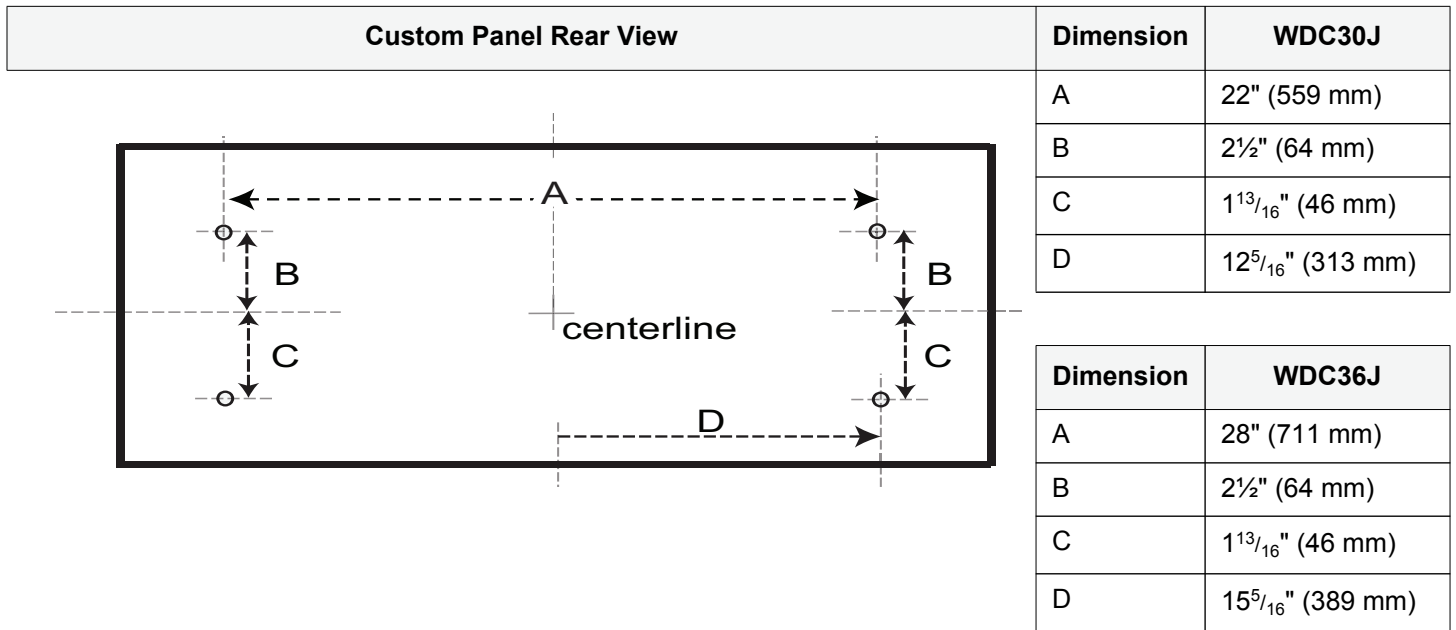
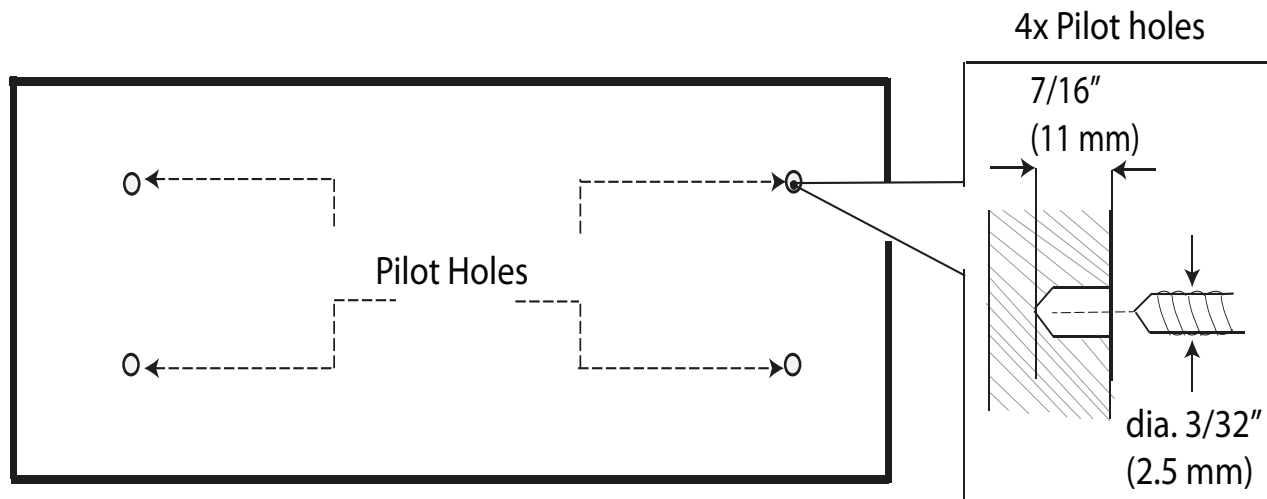

Figure 5: Pilot Holes Hole Dimensions
Figure 6: Drilling the Pilot Holes
1. Mark pilot holes **on the back side of the panel** according to the dimensions indicated in *Figure 5 on page 8*.
2. Drill pilot holes with a 3/32" (2.5 mm) drill bit. **Be careful not to drill all the way through the panel.** Pilot holes should only be 7/16" (11 mm) deep, see *Figure 6 on page 8*.
1. On the back side of the panel, mark the pilot holes of the custom drawer front at the locations and specifications indicated in *Figure 5* and *Figure 6*.